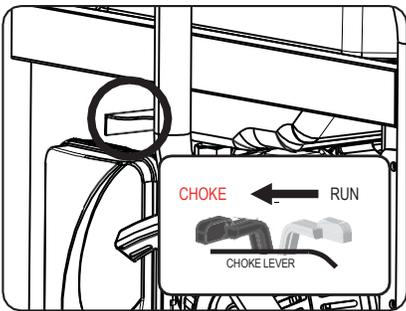

Fig 11
- Slide the choke lever to the “Choke” position. (See fig 11) SKIP THIS IF THE ENGINE IS WARM OR HOT.